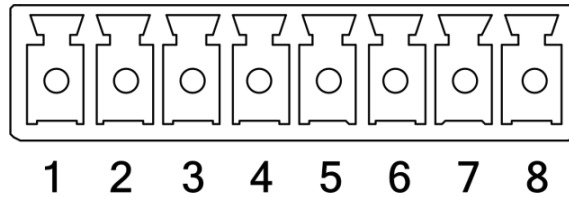

Figure 5-9 Trigger Input Interface of Type I Device
The resistance value (R) in figure 5-9 is different when the VCC of the device changes. Refer to the table below for details.